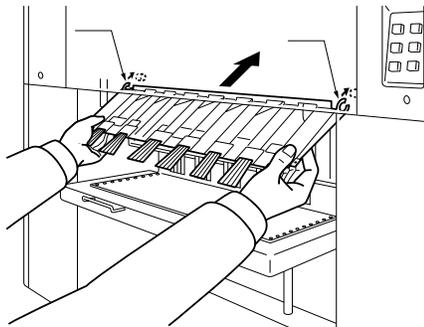

Figure D-7
10. Insert the swing guide front plate to the assembly by tilting it approx. 30 degrees (See Figure D-7)